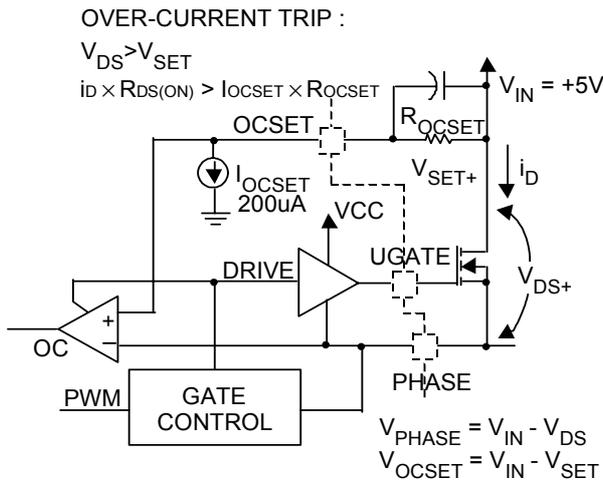

Figure 6. Current Limiting Setting
An external resistor (R_{OCSET}) programs the over-current trip level for the PWM converter. As shown in Figure 6 the internal 200 μ A current sink (I_{OCSET}) develops a voltage across R_{OCSET} (V_{SET}) that is referenced to V_{IN} . The DRIVE signal enables the over-current comparator (OC). When the voltage across the upper MOSFET ($V_{DS(ON)}$) exceeds V_{SET} , the over-current comparator trips to set the over-current latch. Both V_{SET} and V_{DS} are referenced to V_{IN} and a small capacitor across R_{OCSET} helps V_{OCSET} track the variations of V_{IN} due to MOSFET switching. The over-current function will trip at a peak inductor current (I_{PEAK}) determined by: